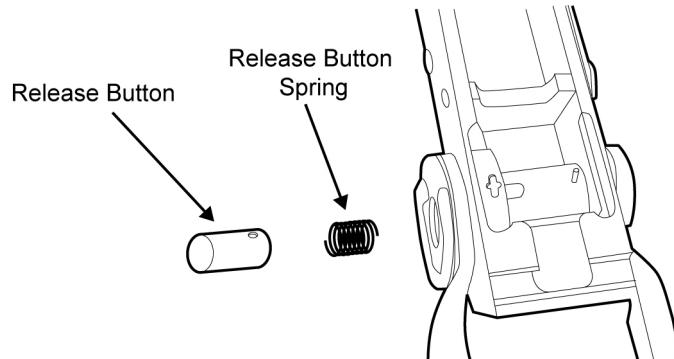

Figure 49. Inserting the Release Button Spring Then the Release Button.
f. Inserting the release button spring and then the release button into the left side of the buttstock axle. Refer to Figure 49.